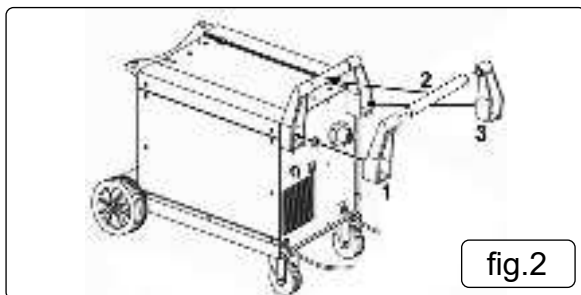

fig.1
- 4.1. ASSEMBLING THE WHEELS:** (Refer to fig.1) The wheels are more easily assembled with the welder placed upside down on a smooth non-abrasive surface. The welder should be turned over by two people as it is very heavy.